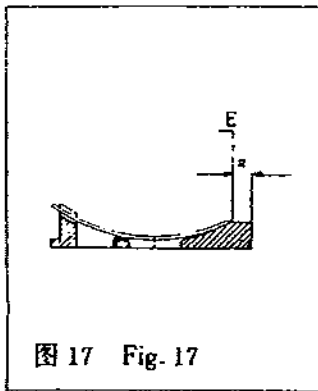

图 17 Fig. 17
(4) 机针摆幅 机针的摆幅决定了机针右极限的位置。要求机针运动到右极限时,针尖到针板右侧面的距离为2毫米左右(图17),此时针尖刚好微露出右导针槽的极限点"E"(图17)。如果上述位置不正确,必须调整机针摆幅。
The right limit of needle depends on the limit of the needle throw. When the needle reaches the right limit, the needle point shall be in about 2mm distance from the right side of the needle plate (Fig. 17). At this moment, the needle point is right put out of the limit point "E" of the right needle guide groove(Fig. 17). If the positioning of location is incorrect, the limit of the needle throw shall be regulated.